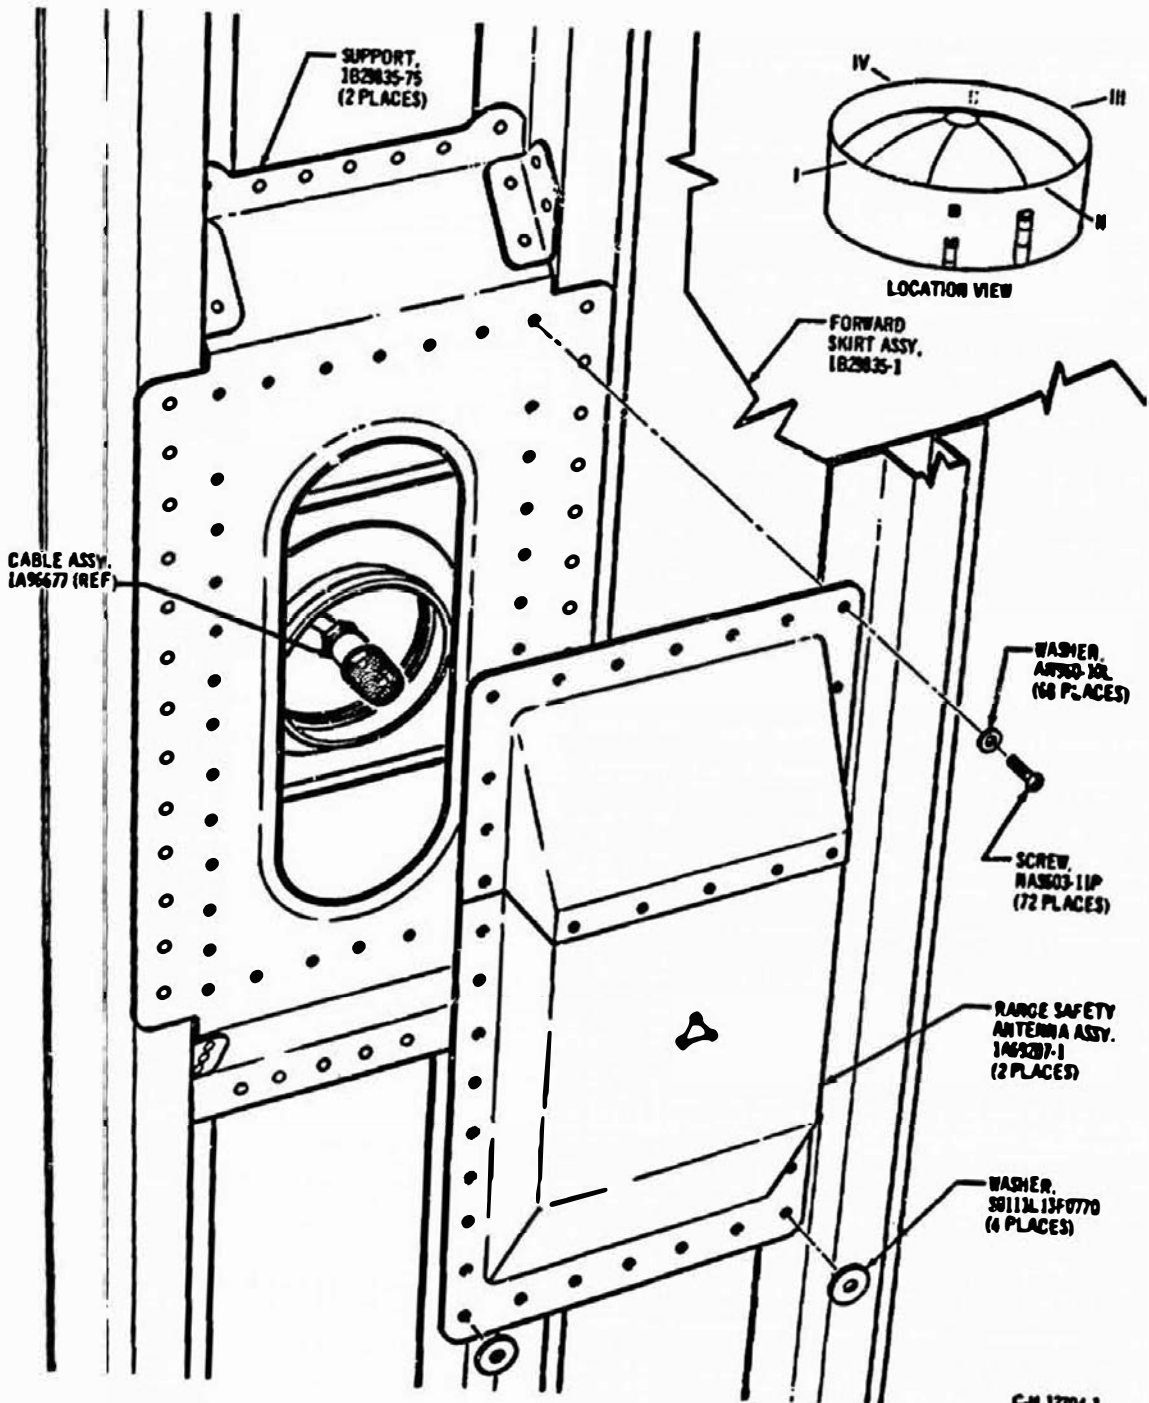

FIGURE L-3 SECURE RANGE SAFETY ANTENNAS - INSTALLATION VIEW
2. **LOCATION:** Station 1627.08. One antenna at 0.84 rad. (48.33 deg) from position I toward position II; the other at 0.84 rad. (48.33 deg) from position III toward position IV. See fig. L-3.